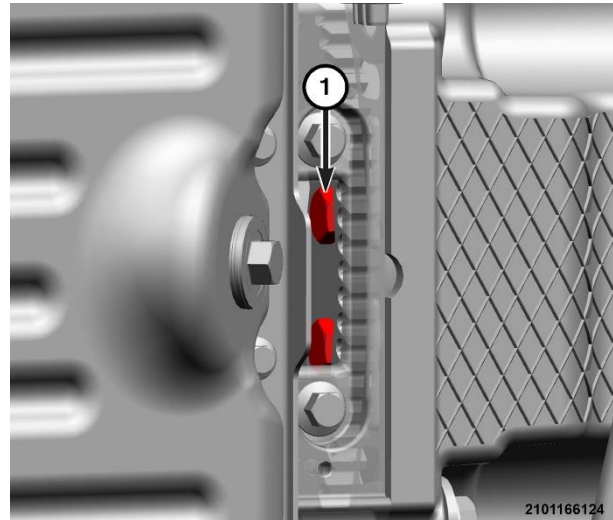

Figure 46 – Torque Converter Bolts
60. Rotate the crankshaft clockwise and remove six torque converter bolts (1) through the crank position sensor pocket (Figure 46).
76. Beginning with the alignment hole in the flex plate, start the first **NEW** torque converter bolt (1) through the crank position sensor pocket (Figure 46).
77. Rotate the crankshaft in a clockwise direction until the flexplate to torque converter bolt holes are accessible. There are three sets of two bolts 120° apart (Figure 46). After all six bolts have been hand installed, then tighten the bolts to 41 N·m (30 Ft. Lbs.).